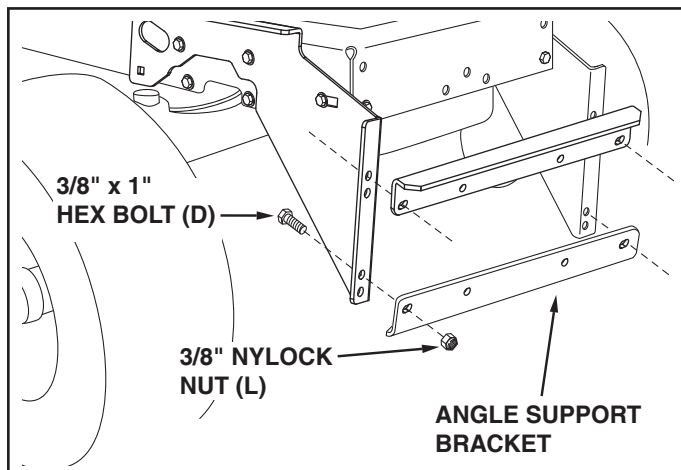

FIGURE 9
STEP 9: (SEE FIGURE 9)
- Assemble one angle support bracket to the topmost set of holes in the hanger brackets using two 3/8" x 1" hex bolts (D) and 3/8" nylock nuts (L). Assemble the second angle support bracket to the second from the bottom set of holes in the hanger brackets using two 3/8" x 1" hex bolts (D) and 3/8" nylock nuts (L). Be sure the brackets are turned as shown. **Do not tighten yet.**